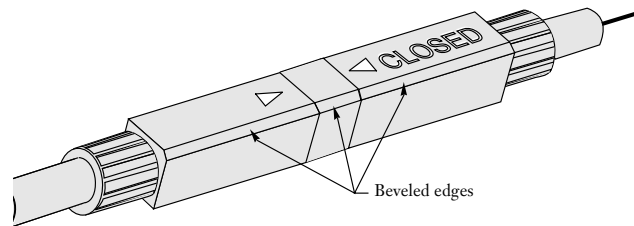

Figure 11
- The arrows on the cams line up as shown in Figure 11.